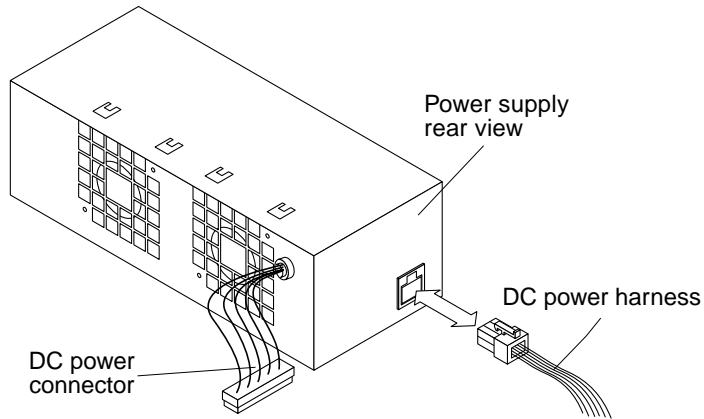

FIGURE 8-2 Power Supply and DC Power Harness
- 5. Disconnect the DC power harness from the rear of the power supply (FIGURE 8-2).**
1. Grasp the power supply with one hand; with the other hand, connect the DC power harness to the rear of the power supply (FIGURE 8-2).